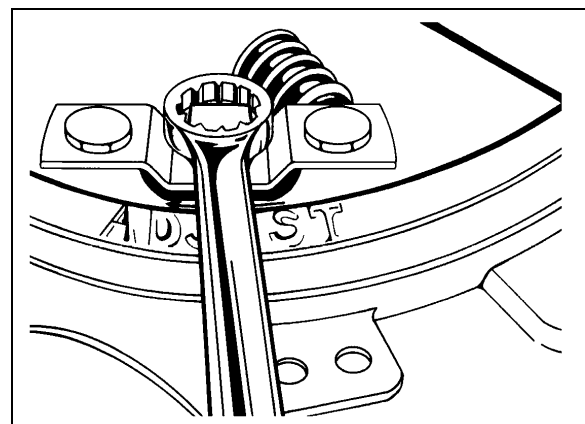

FIGURE 3: SQUARE HEAD BOLT 02006
3. If clearance is incorrect, release the clutch by depressing the clutch pedal to end of pedal travel. Insert a 3/4" socket (12 points) or a 3/4" box-end wrench through the inspection hole. Depress square-head bolt to adjust clutch (Figs. 3 & 4).